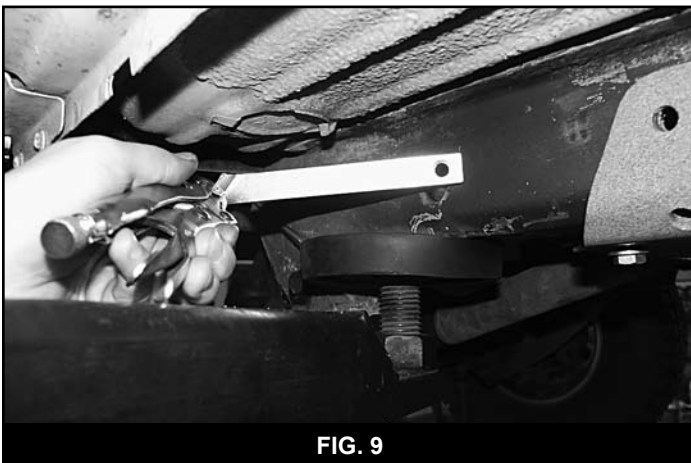

FIG. 9
23. Install the side supports back into position with the same hardware as before. Lightly snug the hardware. Install the provided nut tab (01377, 01378) in the slotted hole in the frame in front of the side support (Fig 9), back to the 7/16" hole drilled earlier (the nut tabs are driver's and passenger's side specific to match the angle of the slot). Loosely fasten the side support with a 7/16" x 1-1/4" bolt and 3/8" USS washer (BP 715) into the nut tab. **Note: Holding the nut tab with vise grip pliers eases installation.**